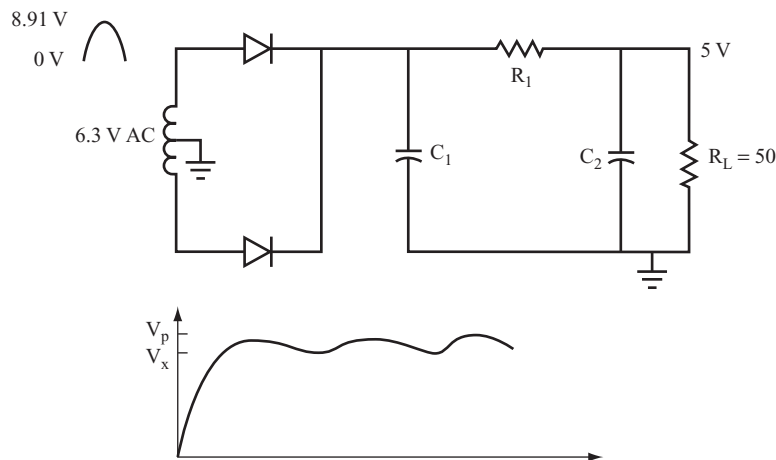

FIGURE 11.49
**31** Figure 11.49 shows a full-wave rectifier circuit with an output voltage of 5 volts across a  $50\ \Omega$  load resistor. Use the following steps to calculate the values of the other components.